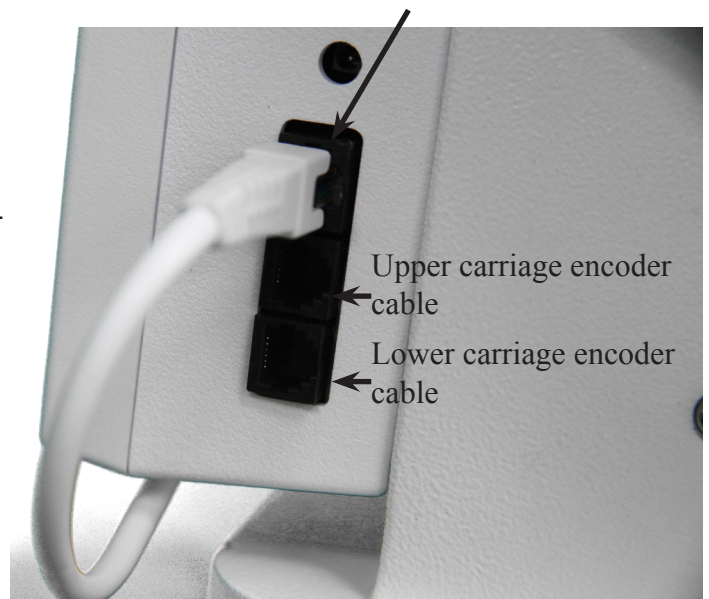

Figure 12
Step 4: Locate the upper carriage encoder cable and connect it to the second connection point on the side of the power box. *See figure 12*
Step 5: Locate the lower carriage encoder cable and connect it to the third connection point on the side of the power box. *See figure 12*